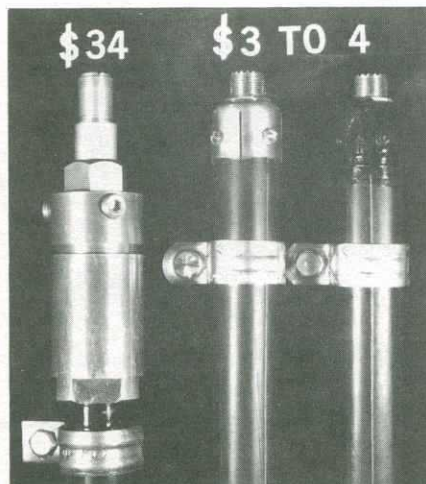
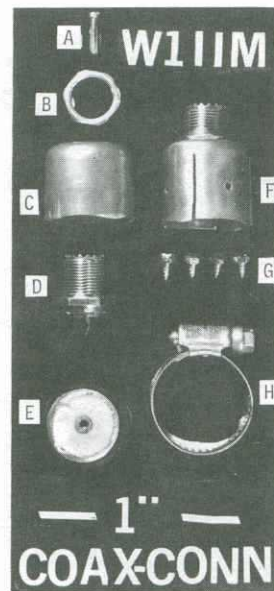

FIGURE 2
FIGURE 3
Figure 2 pictures, from left to right, a commercially available end connector which can be bought for about the indicated cost, an amateur connector design in the raw, and finally, the amateur design in a moisture-proofed final configuration. Relative costs for the two designs have been displayed for emphasis.
Figure 3 illustrates the raw parts needed for the suggested amateur design, denoted as "A," "B" & "D," "C," and "G." Figure 3 also suggests not only the steps of physical assembly, but interrelated with the text, the features and mechanics of fabrication, treatment, and parts usage to the point of final assembly as shown at the right hand side of Figure 2.
2. By the best means available, find the precise center of the outer face of the copper pipe cap, center-punch it, and drill through it at that point with a #42 (0.0935") sharp drill. Remove any burrs from the inside of pipe cap. Force the pipe cap on firmly over the square end face of the cable as the latter is shown in "E" of Fig. 3.
5. Reduce the head diameter of a #4-40 x 1/2" screw to about the same O.D. (see "A," Fig. 3), as the male tip of a PL-259 plug, by "chucking" the screw in a drill and rotating the head against a fine, flat, file, for a final O.D. of 0.150".
7. Drill out the hole in the face of the pipe cap to 1/4", and using an upside down 1/4 inch bolt and nut to secure the cap in a vise, make four fine hack-saw cuts at 90°, about 3/4" down from the lip of the cap (see "F" of Figure 3). Between slots, drill 4 #42 holes about 1/4" back from the same lip, about 90° from each other.
9. Burnish the cap surface with steel wool, insert the body of the bulkhead receptacle from the inside of the cap, and tighten the flat nut (see "F" of Figure 3). Then, with a Bernzo-matic torch and minimum flux, solder the flat nut to the cap surface, with care given to filling the void on the flat, keyed, side of the receptacle body.
10. Insert the #4-40 screw, threads down, in the female flange fingers of the receptacle, push the cap-connector assembly down on the face of the coax, and tighten the #4-40 screw into the tapped center conductor. Slip the #12 hose clamp down over the cap to the lip of the cap, tighten it as a holding tool, and very carefully drill through the guide holes in (a) the copper cap, (b) through the black jacket and (c) just deep enough to puncture the outer seamless aluminum jacket of the coax, using the #42 (0.093") drill. Carefully enlarge the 4 copper cap holes with a #29 (0.140") drill, just enough to allow the #6 x 1/4" sheet metal screw shanks (see "G" of Figure 3) to pass through the cap material. Then install these screws, firmly, hand-tool tight, through the cap, vinyl, and into the outer aluminum jacket of the coax.